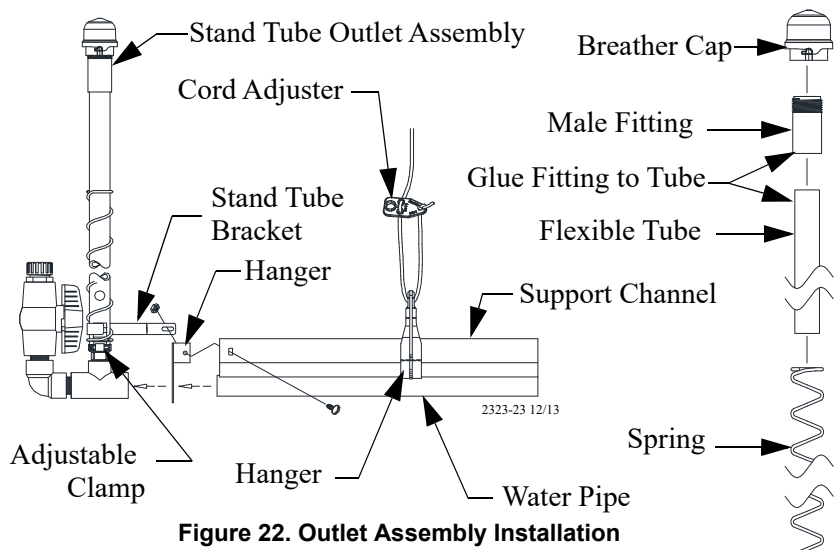

Figure 22. Outlet Assembly Installation
Install the outlet assembly, as shown in **Figure 22**.
3. Secure the hanger to the support channel, as shown in **Figure 22**. If the water line was shortened to terminate under a suspension drop line, it may be necessary to drill a hole in the support channel for the 10-24 stainless truss head screw and lock nut. The hanger may be used as a template to determine proper hole location.